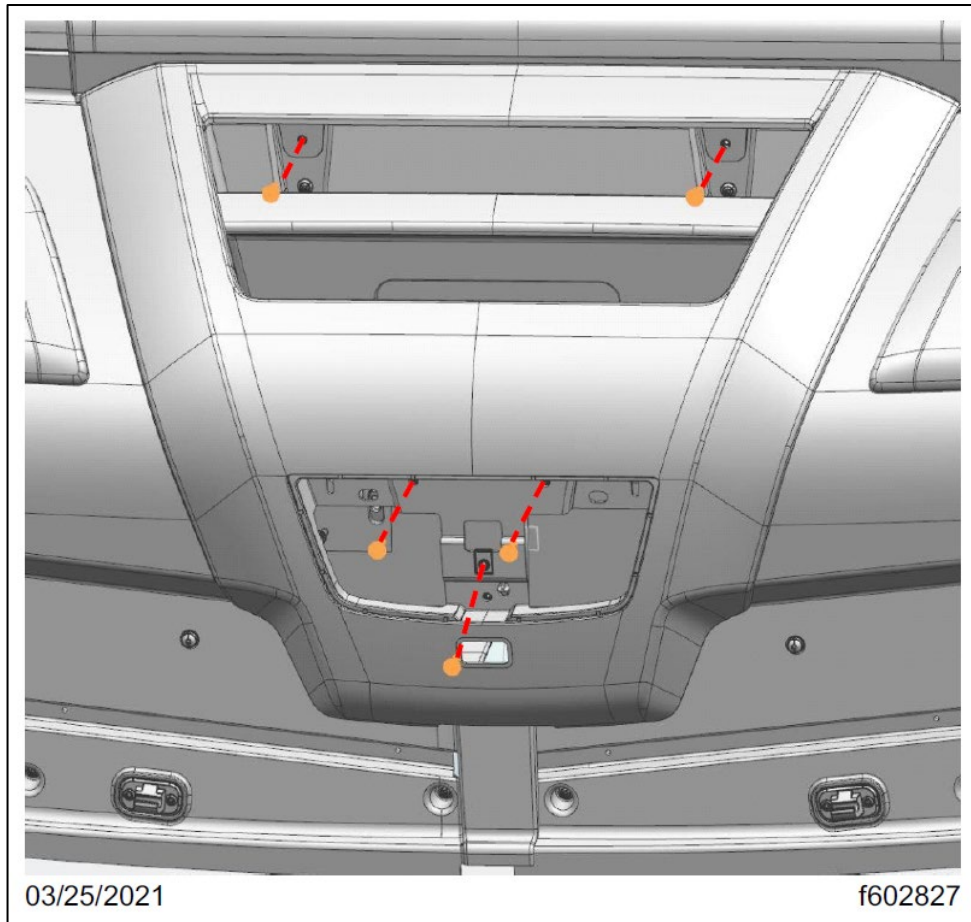

Fig. 45, Sleeper Cab Center Bezel Removal
- 8.2. Remove the five fasteners that attach the center bezel to the center storage bin. Remove the center bezel from the vehicle. See Fig. 45.